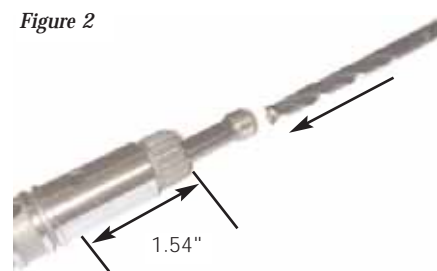

Figure 2
3. Reinstall the inner tube by pressing in place using a  $1\frac{1}{4}$ " (.297" diameter) transfer punch or blunted drill bit. Take care to fully seat the inner tube in the pump shaft. The installed height should be approximately 1.54" from the end of the pump shaft (Figure 2).